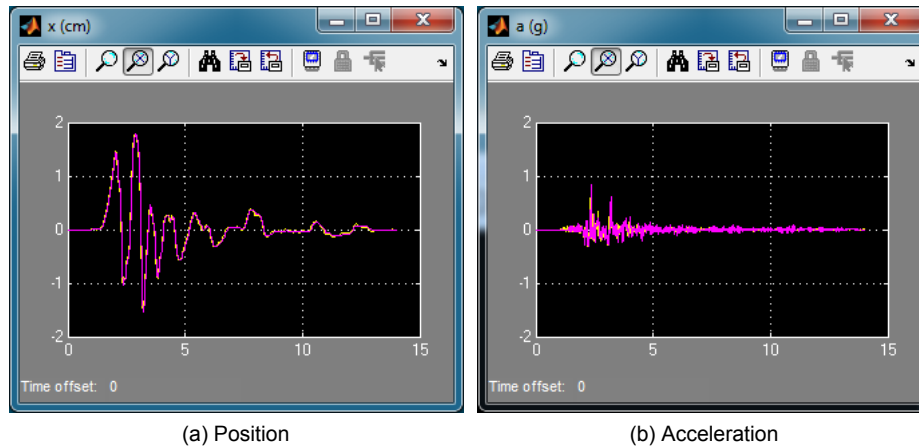

Figure 3.8: STI-40 stage position and acceleration when running Northridge earthquake.
6. Typical position and acceleration responses when running the Northridge earthquake is shown in Figure 3.8.